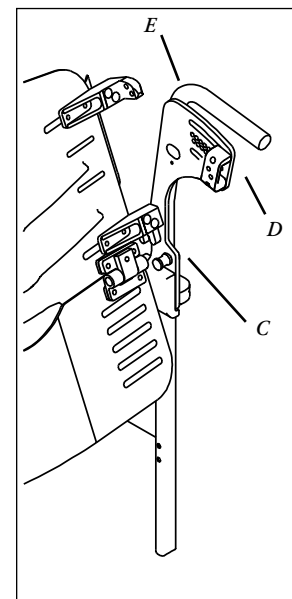

Figure 7
4. Install the both left and right retaining pins into the 12-degree position(F) through the side-plate(E), upper connector(A) and into the back shell receiver(D) **Figure 7**.
5. Adjust back shell to be centered between side plates (G)
6. Tighten both upper connector fasteners (H) while gently holding the upper connector inward towards the center of the chair.
7. Tighten both lower connector fasteners (I).